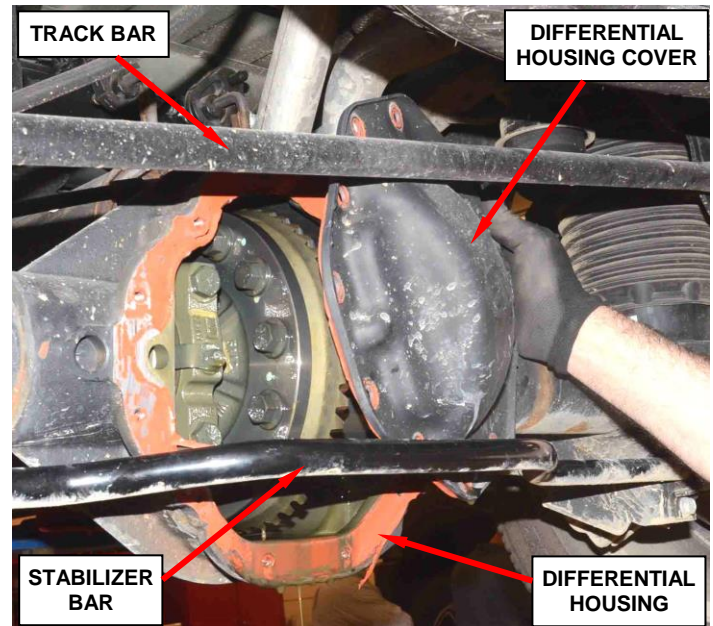

Figure 5 – Differential Case Cover
8. Remove and save the rear axle differential housing cover (Figure 5).